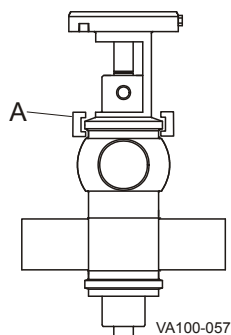

Figure 15 - Location of Adapter Clamp
5. Remove the clamp between the yoke and the adapter (Figure 15, item A).